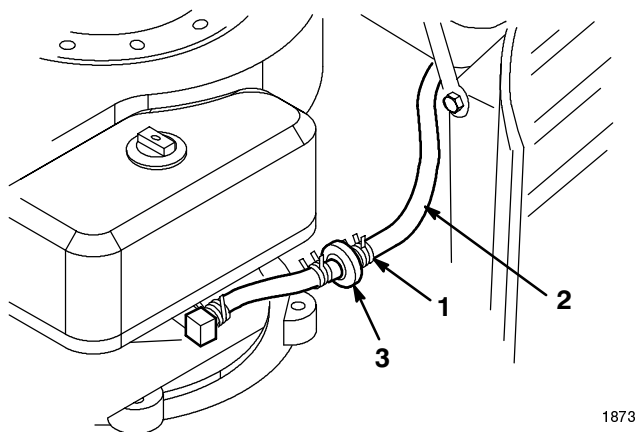

Figure 25
2. Open the hood and locate the fuel filter (Fig. 25).
3. Squeeze the ends of the hose clamp together and slide it up the fuel line toward the fuel tank (Fig. 25).
4. Pull the fuel line off the filter (Fig. 25) and allow gasoline to drain into a gas can or drain pan.
The best time to replace the fuel filter (Fig. 25) is when the fuel tank is empty. Never install a dirty filter if it is removed from the fuel line.
3. Squeeze the ends of the hose clamps together and slide them away from the filter (Fig. 25).